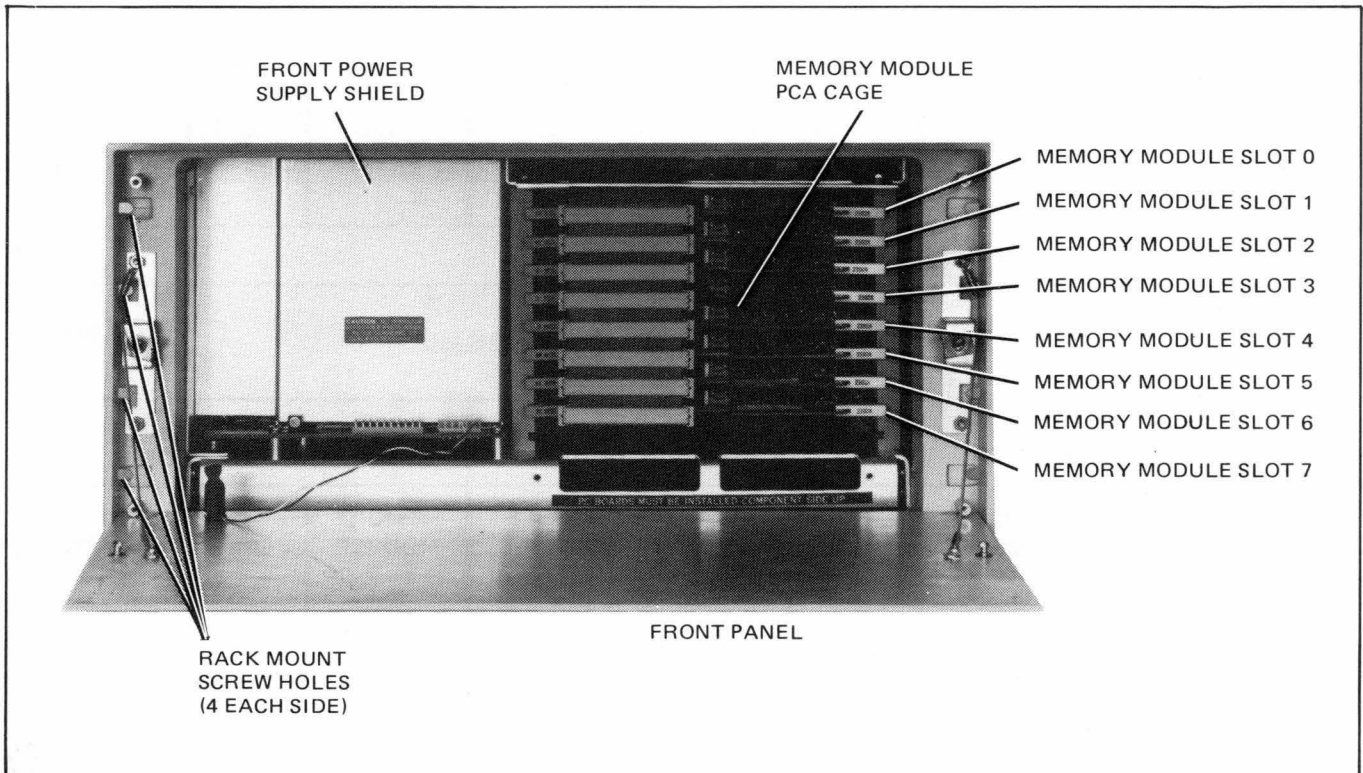

Figure 2-3. HP 12990A Memory Extender Front View
- b. Install the extender in the rack and secure in place with screws inserted through the mounting holes identified in figure 2-3.
- c. Loosen quarter-turn fasteners on memory extender front panel and lower it to memory access position. (See figure 2-3.) Remove memory PCA cage cover by removing the two screws and lockwashers.